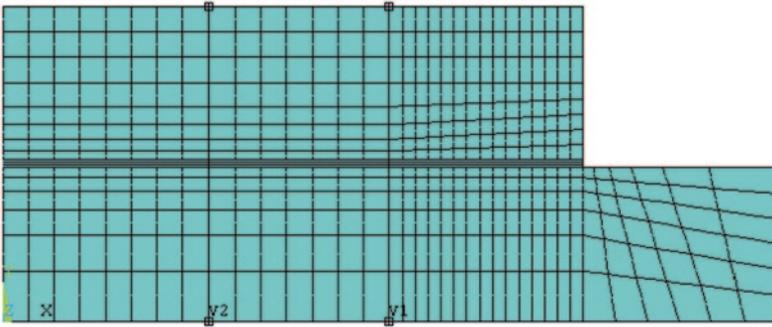
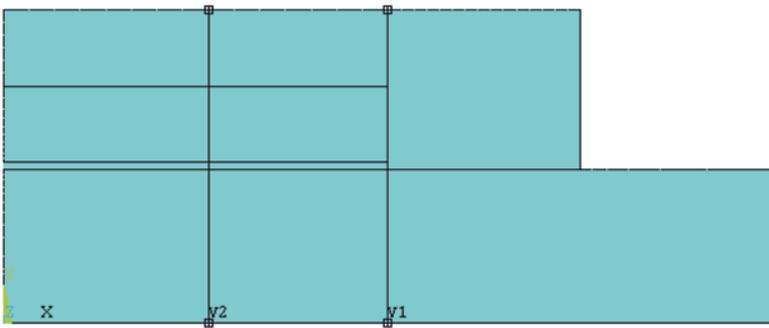

Fig. 8.63 Element plot with paths V1 and V2 identified
Fig. 8.64 Element plot (element edges removed) with paths V1 and V2 identified
- Review variation of stresses along paths by means of line plots. Two paths are defined, both of which are vertical. The first path passes through the vertical cross section where the die and the die-attach terminate and form an interface with the molding compound ($x = 5mm.$). The second path is located approximately in the middle of the die and die-attach. Both paths are plotted in Fig. 8.63 and 8.64 (element edges are removed in Fig. 8.64 for clarity). Define the path (**PPATH** command) using the following menu path:
- *Pick Menu* appears; pick the two nodes indicated with small squares, as shown in Fig. 8.63 (corresponding to the path V1); click on **OK**.
- Define a second path as indicated in Fig. 8.63 and 8.64 (corresponding to the path V2); enter the name as **V2**.